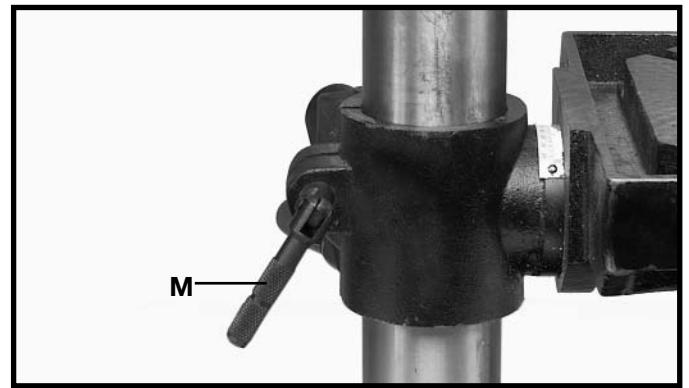

Fig. 12
7. Thread stud on clamp handle (M) Fig. 12, into hole in rear of table bracket, as shown.